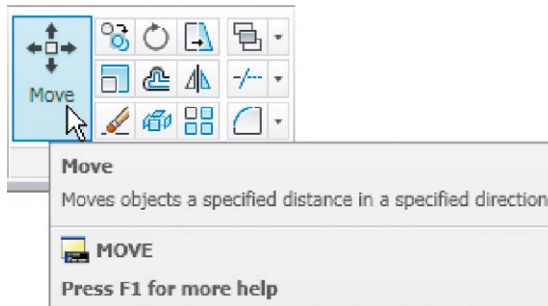

Fig. 5.24 The **Move** tool from the **Home/Modify** panel
2. Call **Move** – click the **Move** tool icon in the **Home/Modify** panel (Fig. 5.24), pick **Move** from the **Modify** drop-down menu or enter **m** or **move** at the command line, which shows: